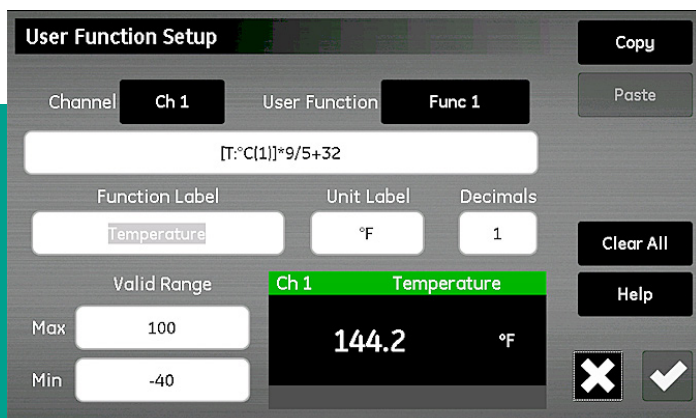

Figure 60: User function setup screen
1. Tap the **user function** button on the *configuration menu* screen (see *figure 52* on page 59) to open the *user function setup* screen (see *figure 60* below).